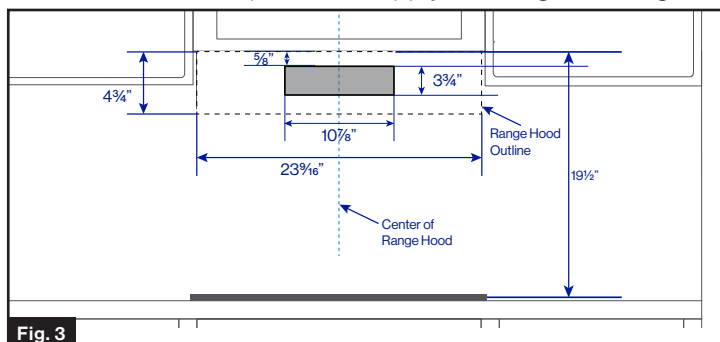
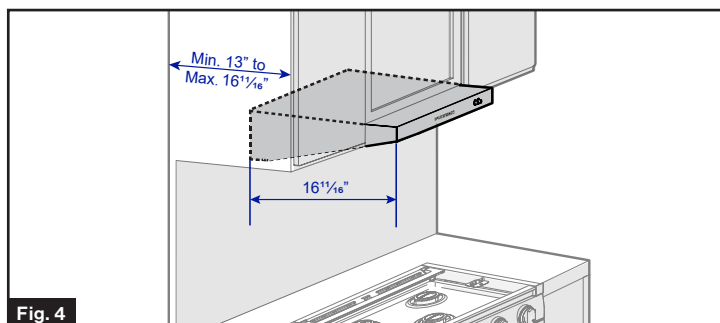

Fig. 3
Fig. 4
4. Mark the centerline of range hood on the wall. (Fig 3)
- If using a Furrion range (Model No.: F1S17****/ F1S21****) or a Furrion cooktop (Model No.: FG HQCLDA), the following minimum vertical distance and cabinet depth should apply. (See Fig. 3 and Fig. 4).
5. Mark and cutout a through-hole on the wall according to the dimensions outlined in Fig. 3.